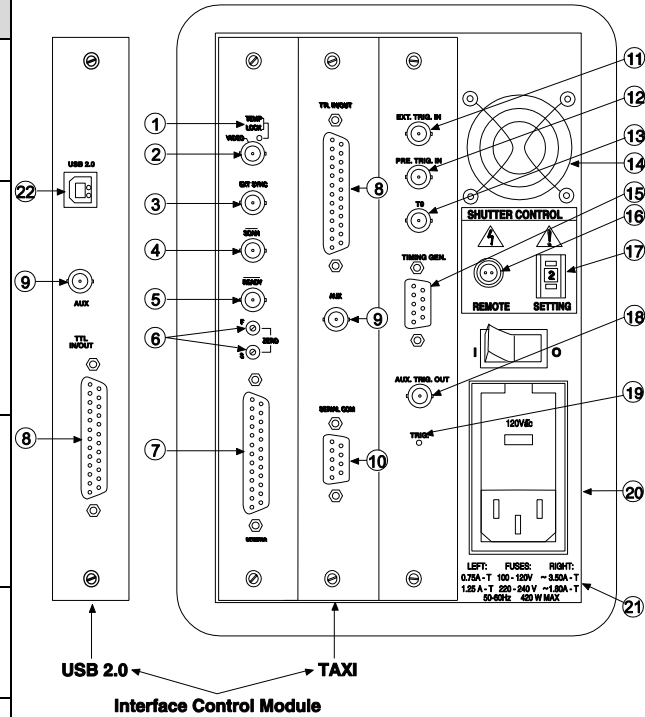

Figure 91. ST-133 (Standard) Rear Panel Callouts
**Standard PI-MAX Controller Rear Panel Features:** The descriptions of the rear panel connectors are keyed to the accompanying figure. Depending on your system, either the TAXI or the USB 2.0 Interface Control Module will be installed in the second from the left slot (as you face the rear of the ST-133). In the Figure 91, the TAXI module is shown in that position. The Fuse/Voltage label will be above or below the Power Module.